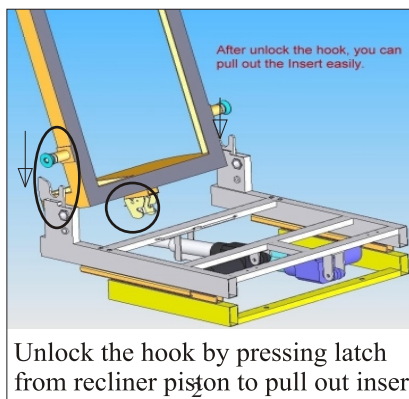

Fig.1
1. Make a hole ( size 1-3/8") for the On/Off switch as shown (see fig 1). Pre-drill required.
- \* On the lower portion of both side of the backrest, there are pivots (Fig.1)
- \* Figure 1: shows Pivot and “U”pivot frame at correct alignment / be sure to clear wire